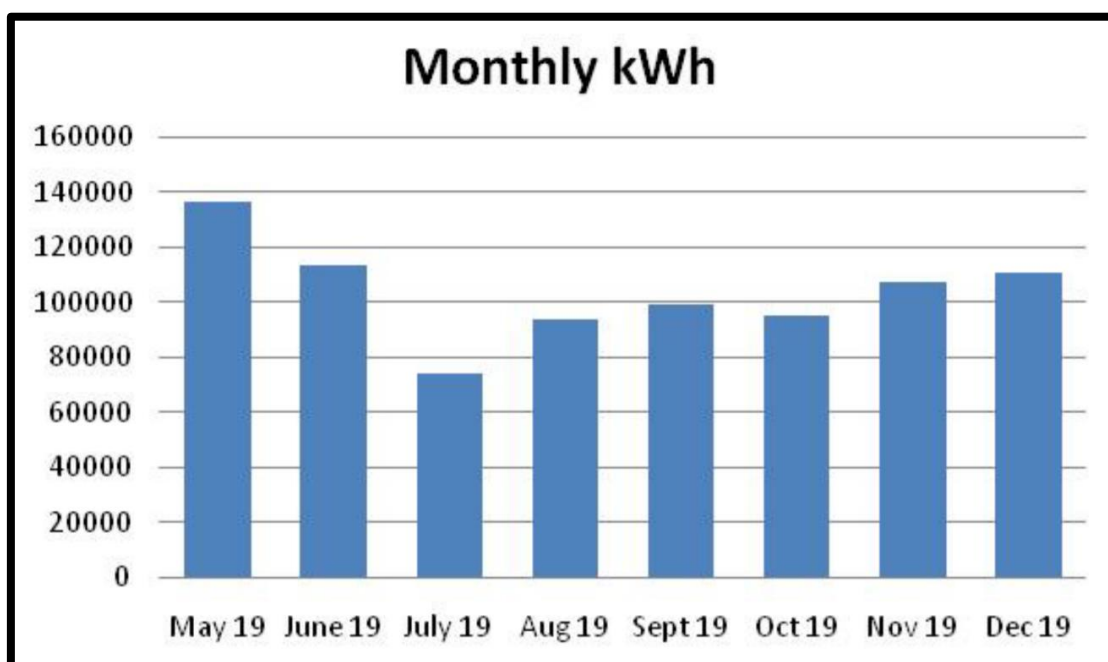

Figure 1. Monthly power consumption
- Monthly energy consumption is shown in **Figure 1**. The minimum energy consumption is 74080 kWh and maximum is 136020 kWh with an average of 103000 kWh per month.